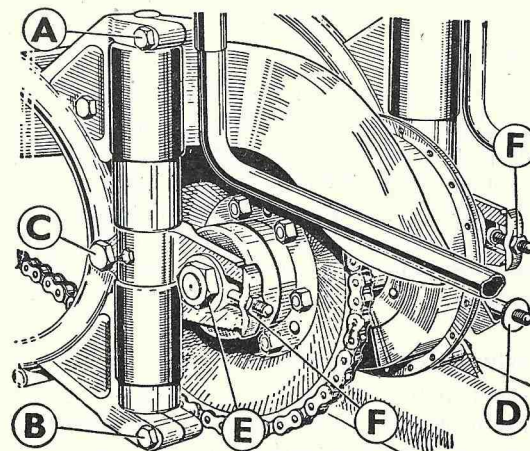

FIG. 34.—METHOD OF ADJUSTING THE REAR CHAIN ON THE 200-C.C. MODEL LH COLT.
The tension of the rear chain is modified by altering the position of the rear wheel. Set the machine on its stand. The wheel must be in its lowest position in the suspension unit for the purpose of this adjustment. The rear-brake adjuster (D, Fig. 34), must be slackened off, as otherwise the brake rod may prevent free movement of the wheel. The spindle nuts (E) must be released to ensure easy movement of the wheel spindle in the fork ends. The adjusters F should be tightened so that they are equal on both sides of the wheel so that the latter is kept in correct alignment in the frame. Retighten the wheel-spindle nuts E. Screw up the brake adjuster D until the rear brake operates with its normal efficiency.
gearbox sprocket. The rear-brake adjuster D (Fig. 34), on the end of the brake rod, should be unscrewed completely. The spindle nuts E need not be completely removed but slackened far enough to allow the wheel to be withdrawn.
reason, adopt the following sequence. Remove the rear wheel. Remove pinch bolts at the top and bottom of the suspension unit (A and B, Fig. 34). Tap the centre columns upwards with a hammer and soft punch and take them out through the top lugs. The spring units will slide sideways from between the top and bottom lugs and can be completely dismantled on the bench. If necessary the wheel-spindle brackets can be detached from the bearing sleeves after removal of the pinch bolts C.